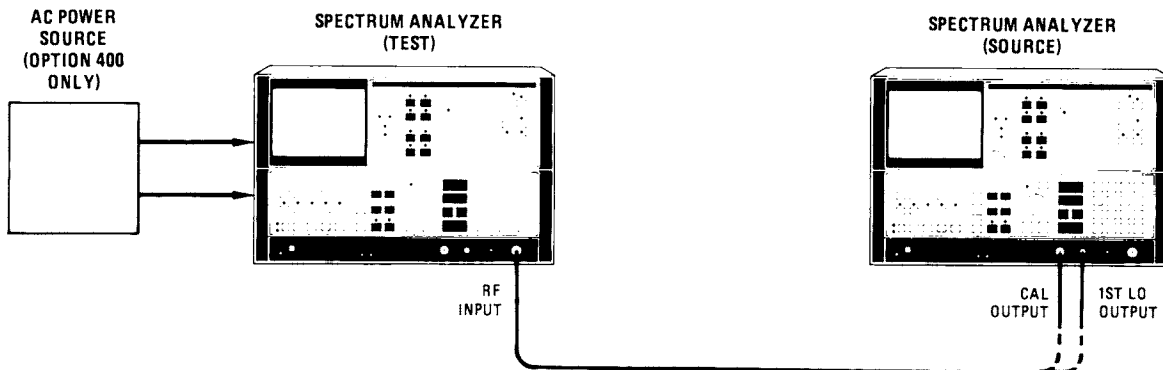

Figure 4-32. Line Related Sidebands Test Setup
11. Connect 1ST LO OUTPUT of source analyzer to RF INPUT of analyzer under test as indicated in Figure 4-32.